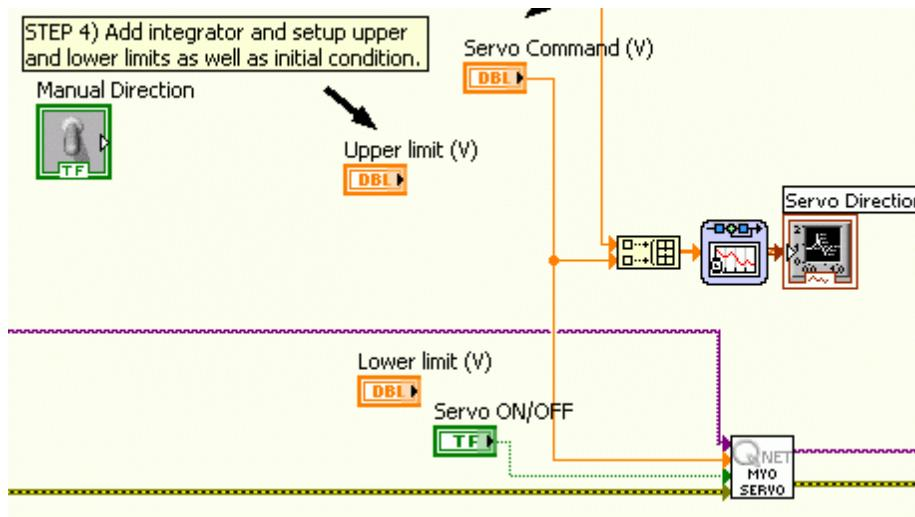

Figure 4.8: Add an integrator
8. Go to the block diagram section shown in Figure 4.8. Add an integrator and connect the signal from 7 into its input. Make sure to setup the lower and upper saturation limits of the integrator with the *Upper limit (V)* and *Lower limit (V)* controls. The initial condition should also be wired to the *Lower limit (V)*. Attach an image of your block diagram.